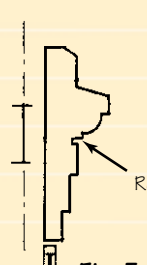

Fig. 3-5
- Incorporated with a reveal (as in Fig. 3-5).